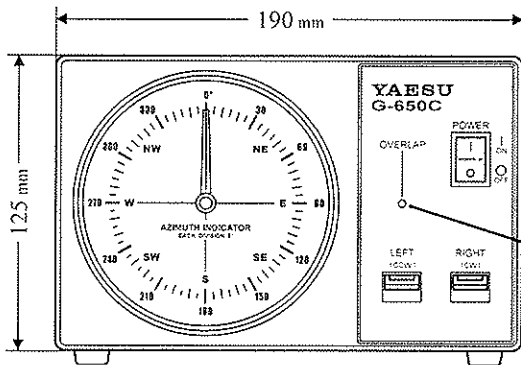

Figure 3
9. Hold down the right rotate (**RIGHT**) switch again and rotate to the right. Check that the overlap LED (see Figure 3) illuminates when the rotation exceeds approximately 360° .